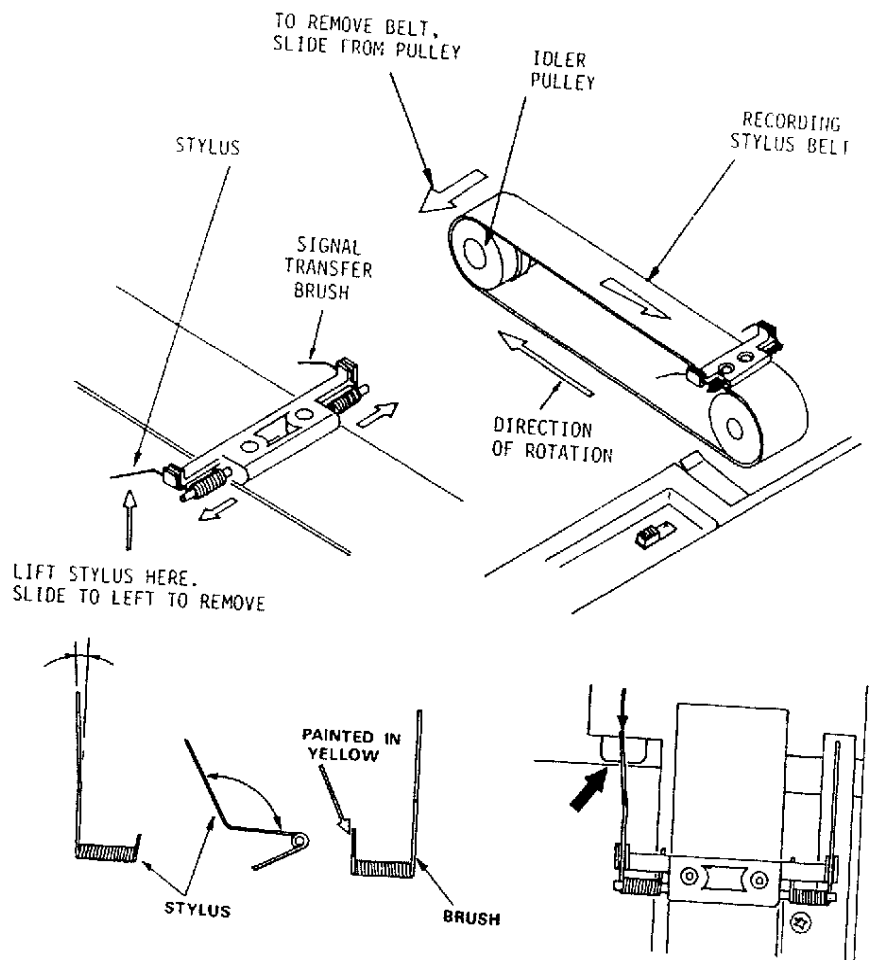

Figure 4-2 Stylus Replacement and Stylus Belt Replacement
2. Stylus Replacement and Stylus Adjustment (See Figure 4-2)
- (1) Position the stylus assembly as shown in Figure 4-2.
- (2) Insert the coiled stylus over the straight pin on the stylus holder - left side or right side.
- (3) Engage the stylus spring into the notch on the stylus holder. Be sure it is secure and aligned.
- (1) Remove the paper transport cartridge.
- (2) Remove the stylus assembly as directed in Paragraph 2 and position the stylus belt as shown in Figure 4-2.
- (3) Remove the belt from the idler pulley by sliding it to the left and off the pulley.
- (4) Carefully manipulate the belt into the gap between the idler pulley and remove the belt from the unit.